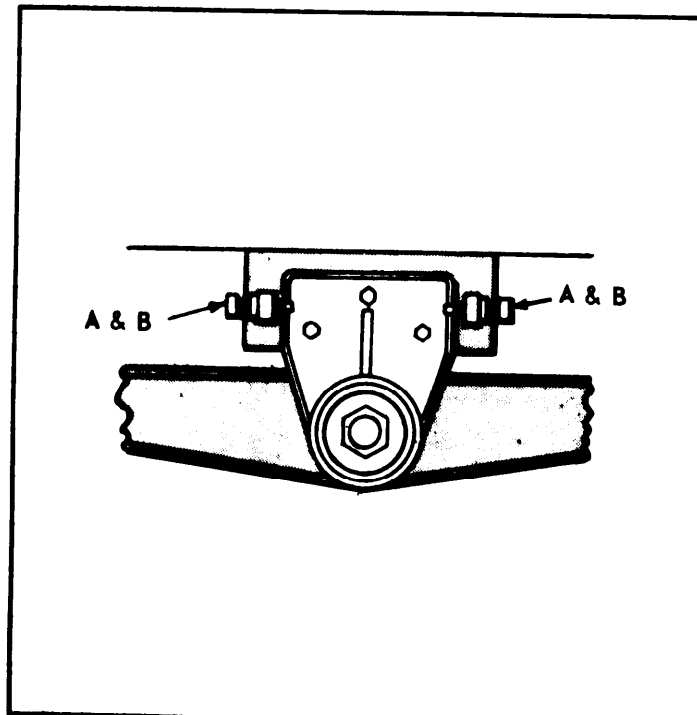

FIGURE 10-3. ALIGNMENT SCREWS
a. Loosen all locknuts at points "A" and "B" (see figure 10-3).
b. Loosen the four (4) alignment screws "A" and tighten the four (4) alignment screws "B". Continue this procedure until tandem is in alignment.
d. If unit is steering right, loosen the four (4) alignment screws "B" and tighten the four (4) alignment screws "A", the opposite of above procedure.